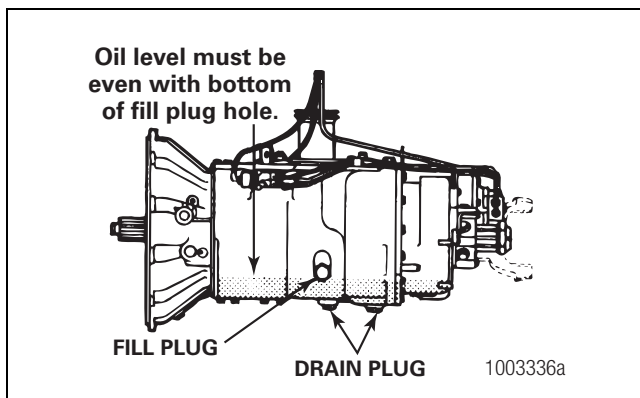
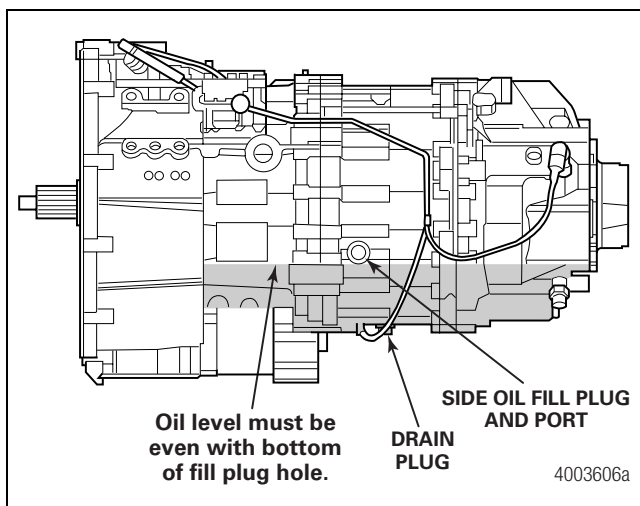

Figure 12.5
Figure 12.6
4. Check the transmission oil level. Verify that it is even with the bottom of the fill plug. If the oil level is below the bottom of the oil fill plug, add the specified oil. Refer to Figure 12.5 for 9-, 10- and 13-speed transmissions. Refer to Figure 12.6 for 12- and 16-speed ZF-FreedomLine transmissions.